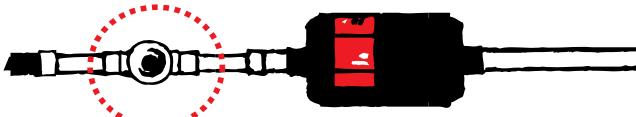

Figure 11
3. Liquid spy (see Figure 11) on the system.(where present)